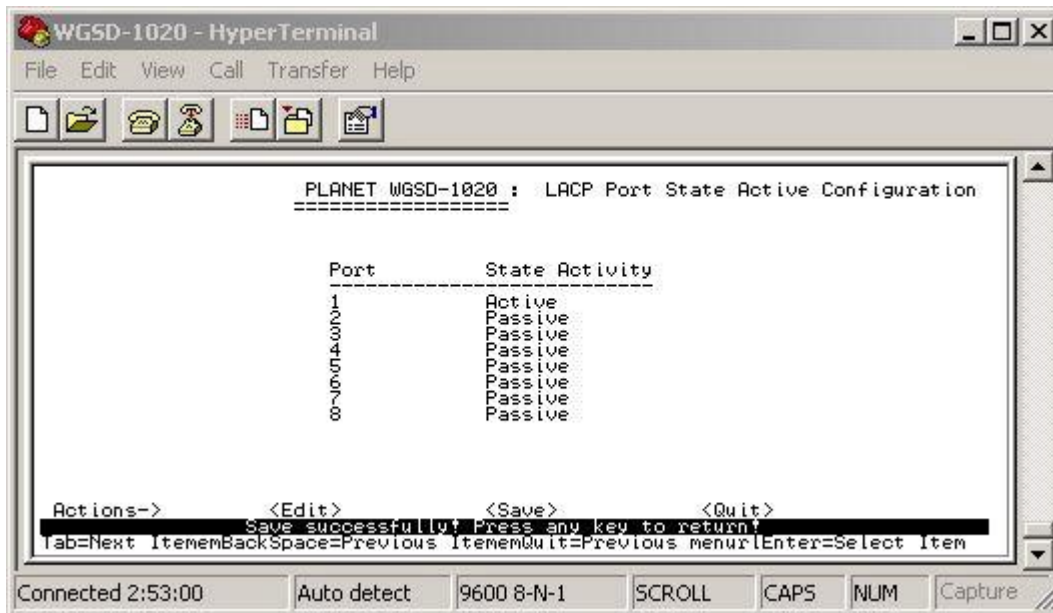

Figure 4-67 LACP port state Active configuration screen
2. After setup completed, press "Ctrl-A" to "Action menu" and choose "save" to save the current configure. The screen in Figure 4-67 appears.